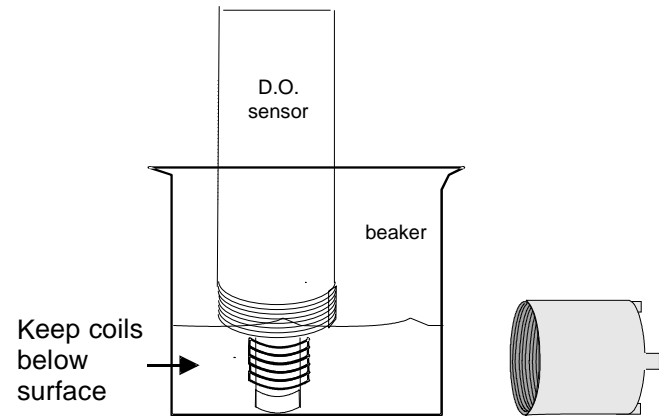

Figure 19 D.O. Sensor Cleaning
2. Immerse in cleaning solution as shown (Figure 19) for 5 to 10 minutes, or until deposits disappear.